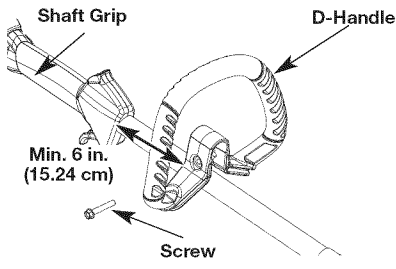

Fig. 1
- Loosen the screws on the D-handle (Fig. 1).